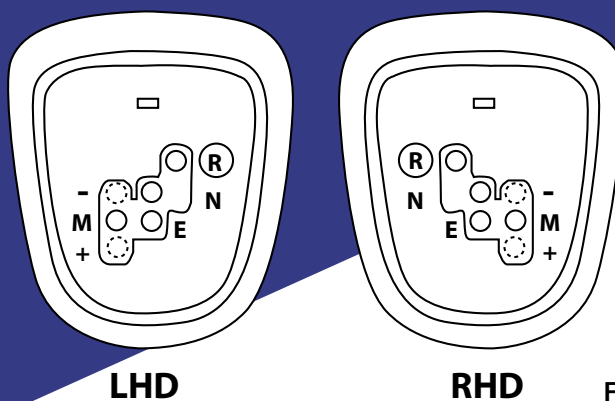

Fig. 1.
Multi-Mode Transmission, or MMT for short, is a type of sequential manual gearbox offered by Toyota. Instead of a conventional automatic transmission which uses hydraulics and a torque converter, the MMT has a conventional friction clutch and mechanical gear selector mechanism which is controlled electronically. The most obvious way to identify whether a car is fitted with MMT, is the gear selector will have no transmission locking Park (P) position, as in Fig. 1.